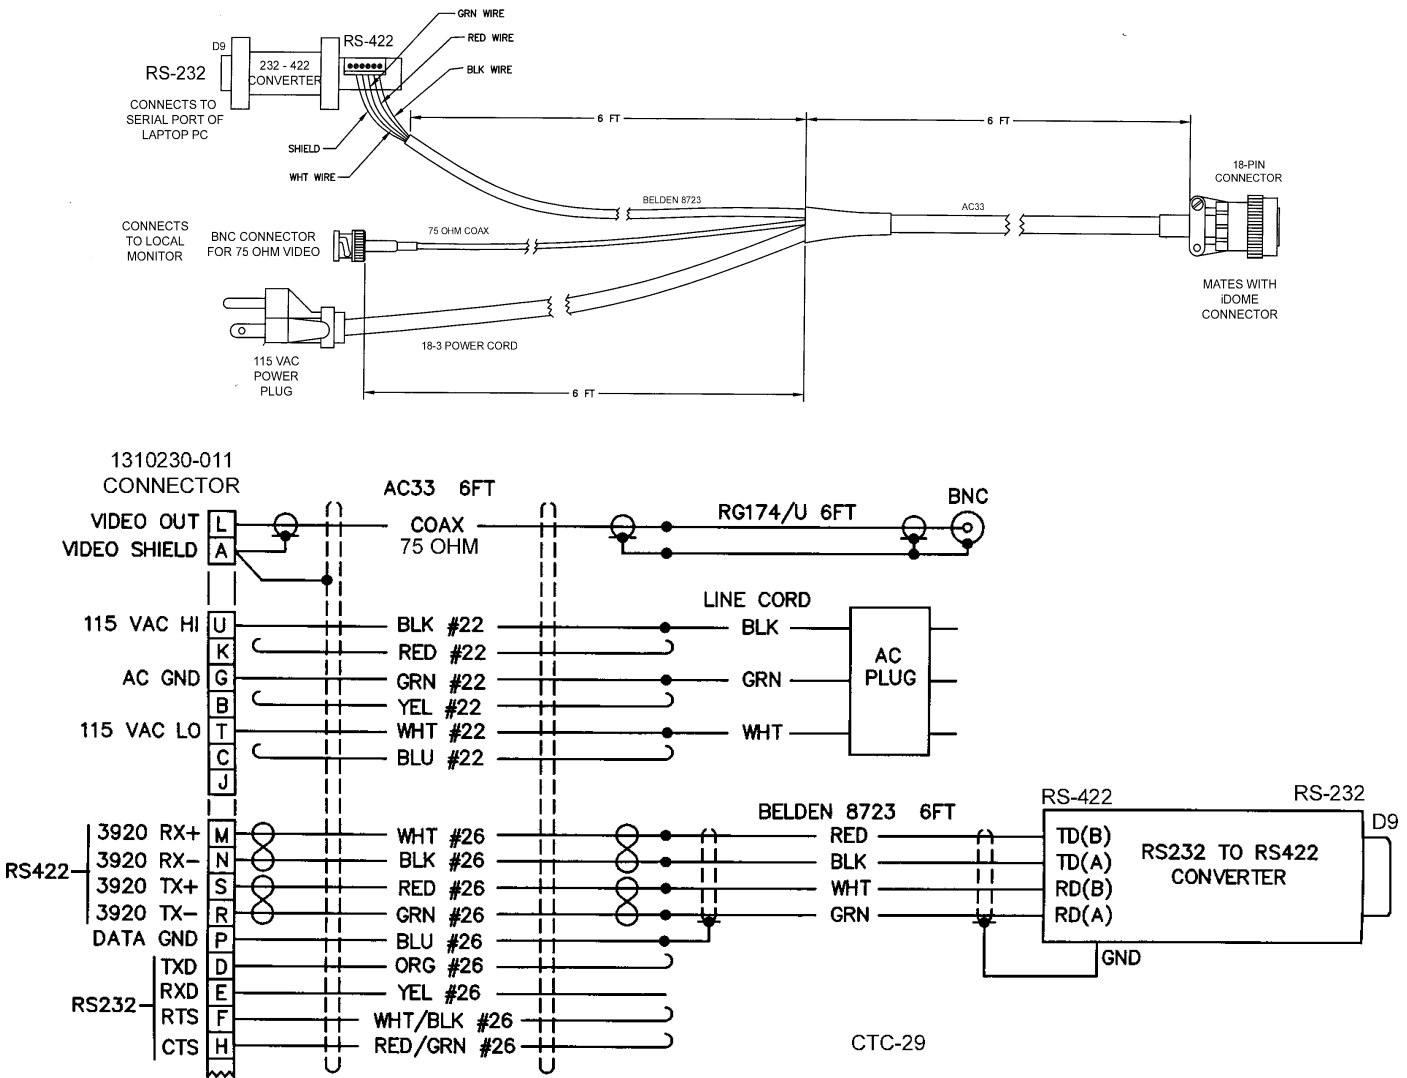

Figure 5. Type CTC-29 Cable , Test/Setup, Wiring Diagram
2. Connect the test cable (figure 5) to the connector at the top of the dome
3. Connect the other end of the cable to the laptop. (Either a test cable with integral RS-232 to RS-422 converter or separate converter must be used. See figures 5 and 6.)